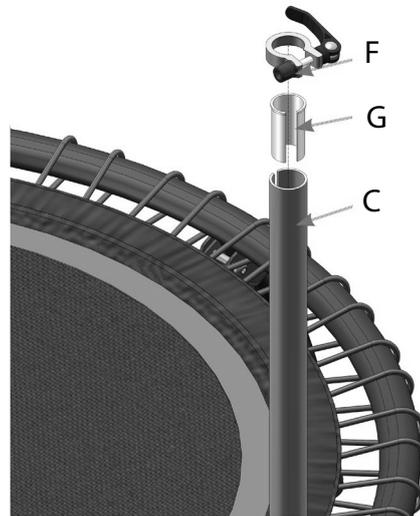

fig. 3
Insert the plastic spacer (G) in the support tube (C) and mount the quick release clamp (F) on the support tube (C) (see fig. 3).